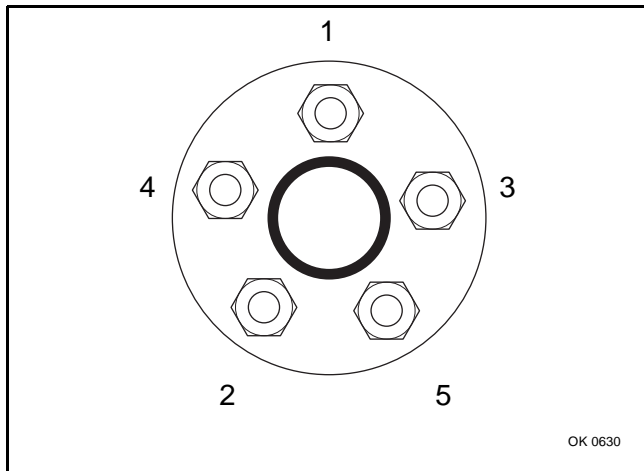

Figure 20
15. Tighten lug nuts using the pattern shown in Figure 20.